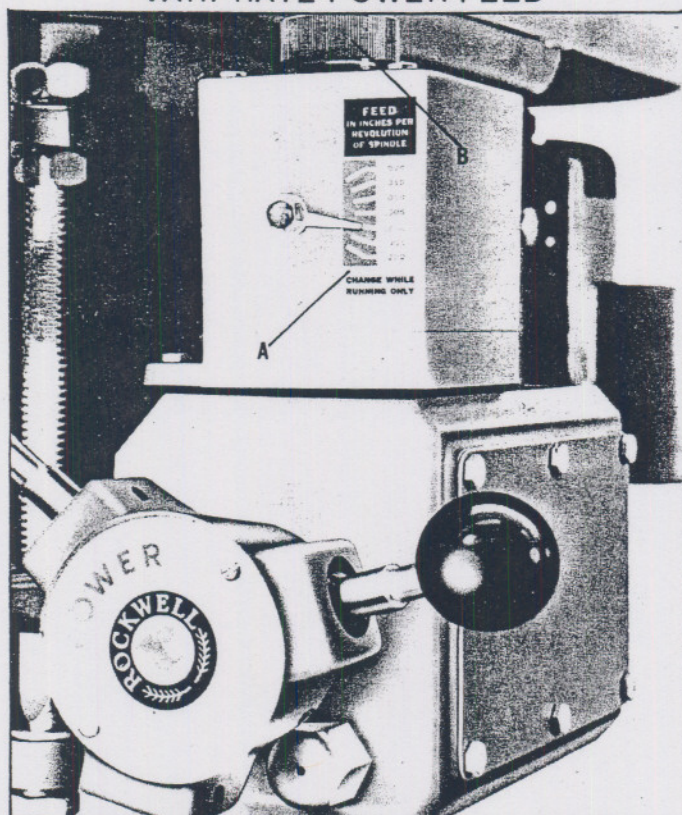

Fig. 10.
Power Feed for Vari-Rate Models — Start the machine and set the correct feed, as shown on the feed chart (A) Fig. 10, by turning the vari-rate knob (B). The vari-rate knob should be turned only when the motor is running. To engage power feed push any one of the three handles "in". To disengage power feed before completing cycle (or in an emergency) pull out any one of the three handles. The power feed speed may be increased or decreased at any time during the drilling operation.